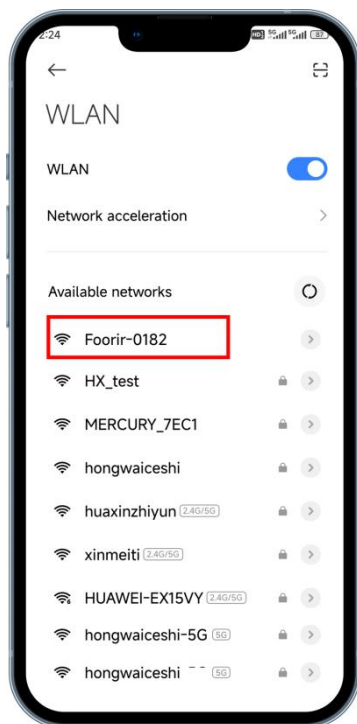

Figure 1
**Step 3:** Turn on WiFi on your phone and search for the device hotspot Foorir-xxxx (xxxx is the last four digits of the device serial number as shown in Figure 1)